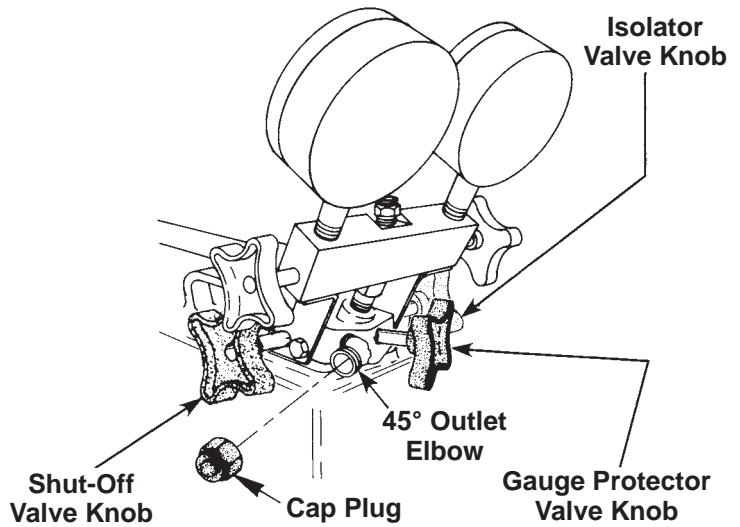

Figure 3
5. Thread the inlet fitting at the base of the adapter block into the tester head gauge port until the adapter is positioned on the tester as shown in Figure 3.